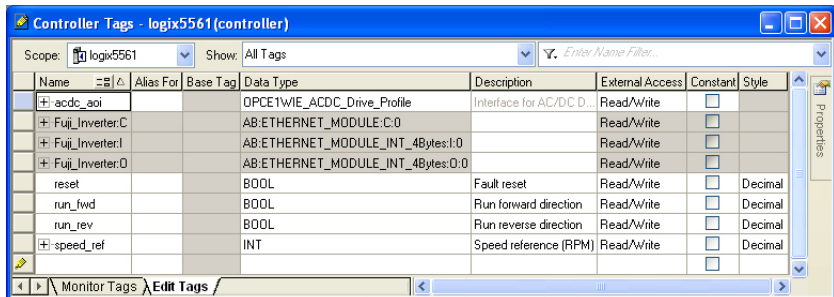

Figure 98: Create AC/DC Drive Profile AOI Tags
- 4) Create the tags in Figure 98.